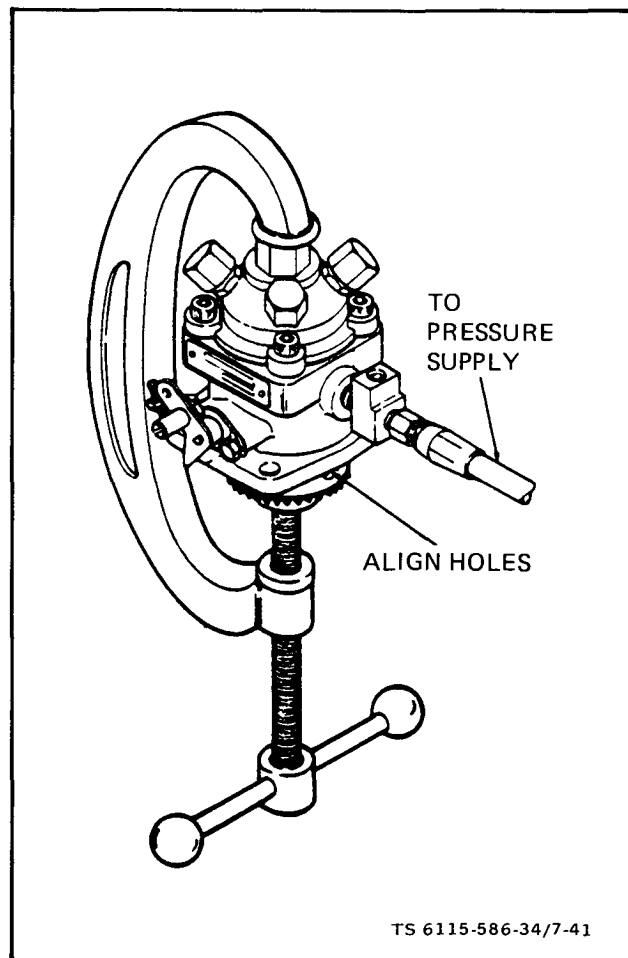
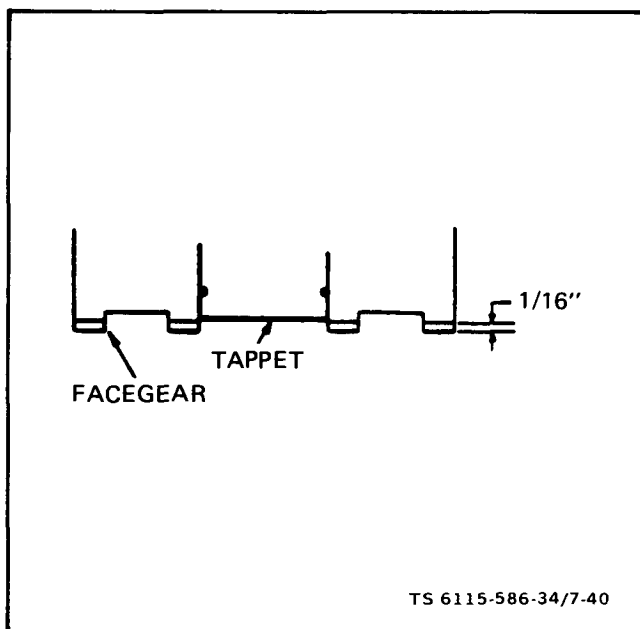

Figure 7-41. Pressure Testing Injection Pump
Figure 7-40. Checking Plunger Sleeve Alignment
(1) Turn pump upside down and depress tappet with thumb. Tappet should recede 1/16" into face gear (figure 7-40). If tappet cannot be depressed 1/16" into face gear, plunger sleeve pin (5, figure 7-34) is improperly aligned. Disassembly pump and re-align pin.
(2) Remove the overflow valve assembly from the fuel outlet hole in the pump housing. Install a 1/4" pipe plug into the fuel outlet hole.
(3) Secure the pump close to a Nozzle Test Stand.
(4) Cap outlet ports (see figure 7-41).
(5) Install C-clamp on injection pumps as shown in figure 7-41 to retain face gear.
(6) Align holes in face gear and housing (see figure 7-41).
(7) Connect the Nozzle Test Stand to the fuel inlet hole in the pump housing.